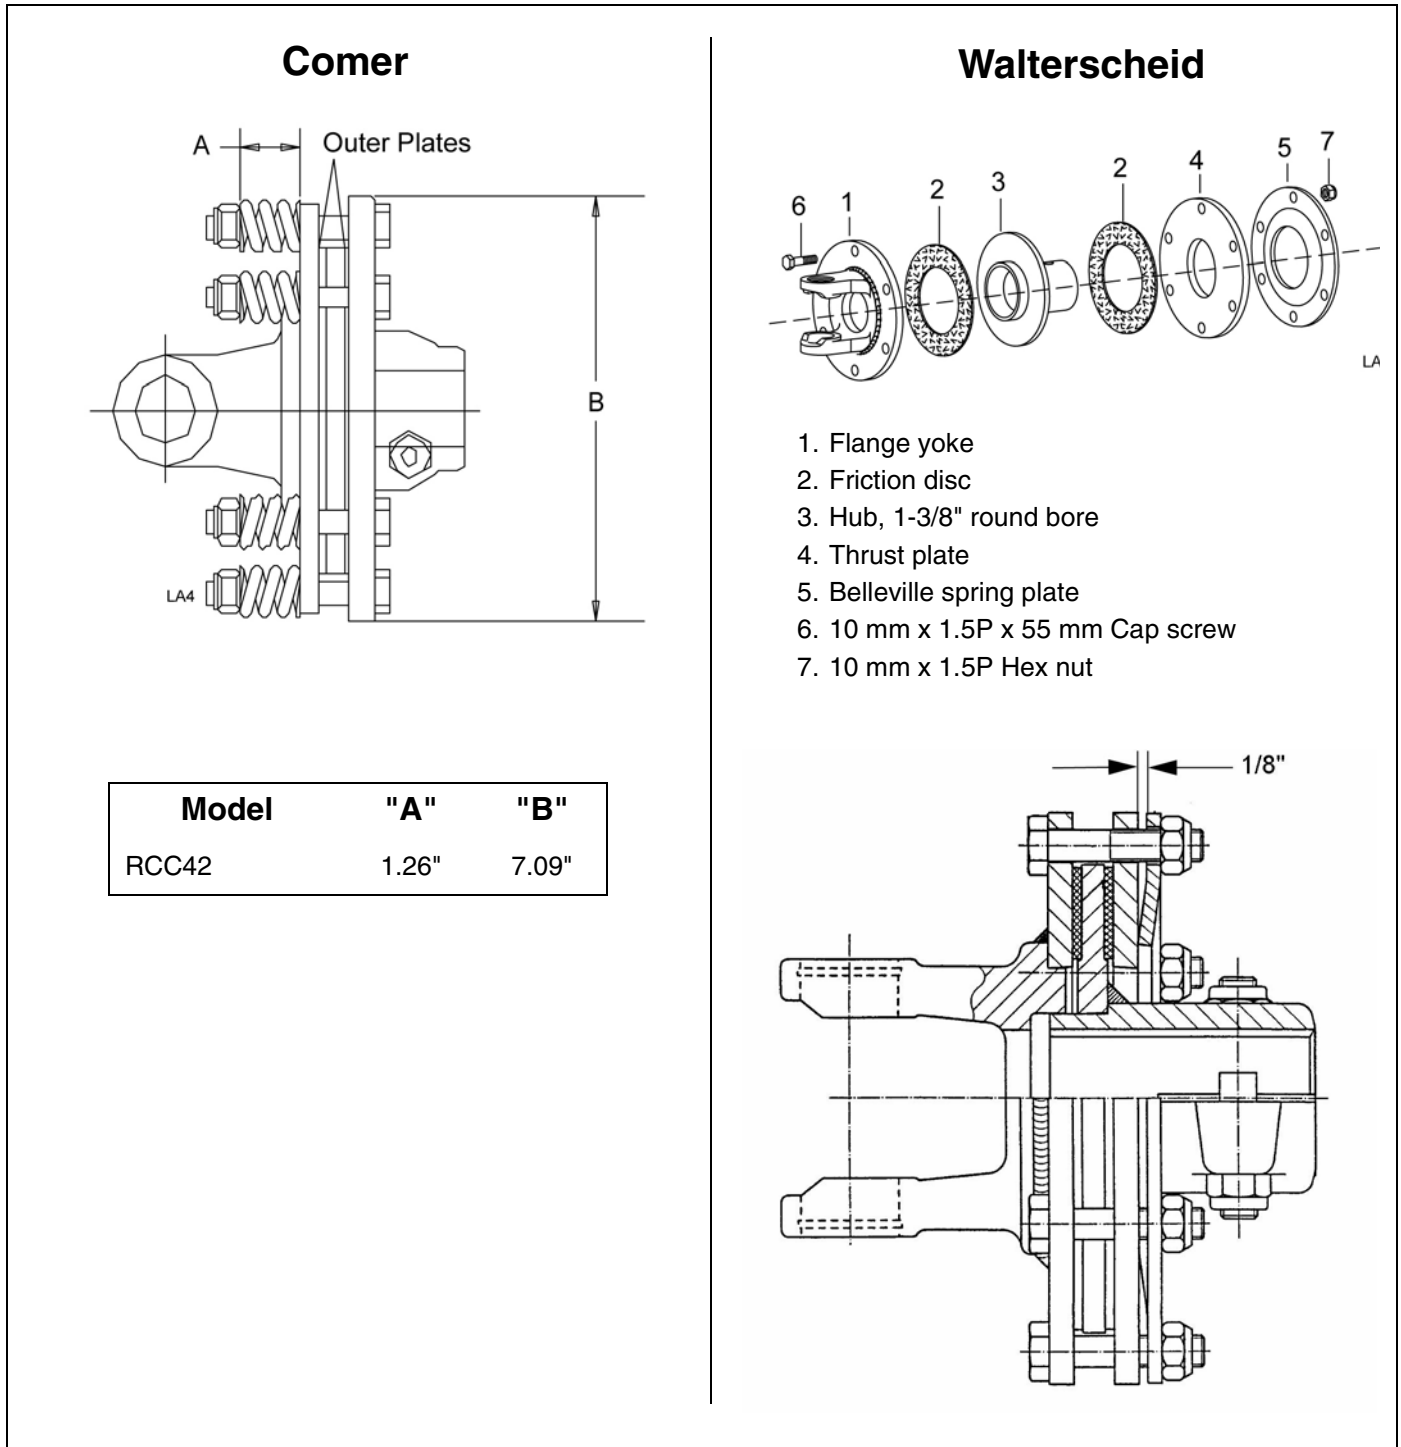

Figure 10. Slip Clutch Assembly
3. Mark outer plates of slip-disc clutch as shown in Figure 10.
9. Reassemble clutch and tighten bolts no more than 1/8 of a turn at a time until desired setting of 1.26". See Figure 10.
nuts by 2 full revolutions. The gap between spring and thrust plate should be $1/8$ " as shown in Figure 10.